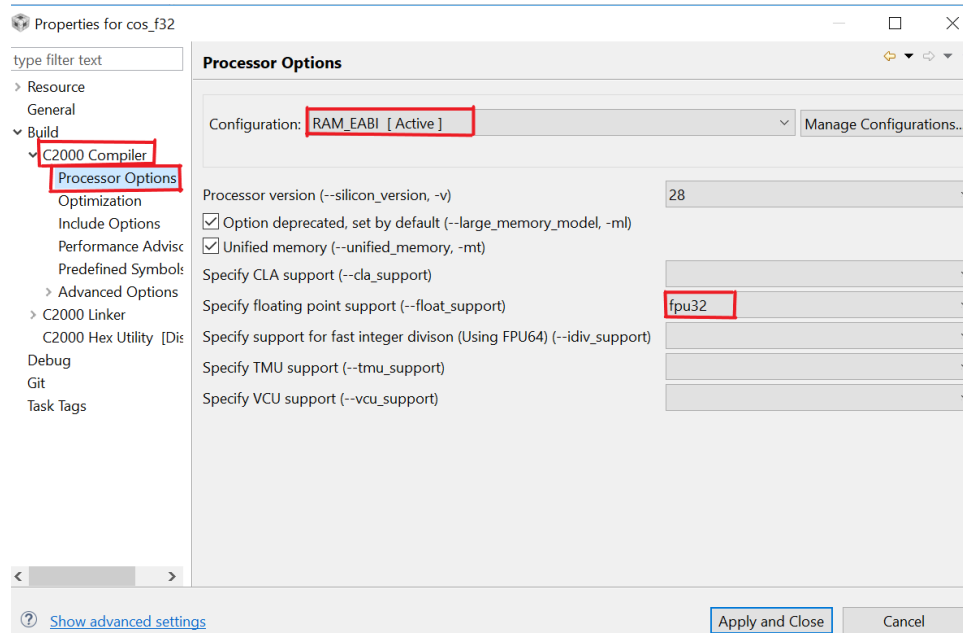

Figure 4.6: Turning on FPU32 support
- For the single precision library set the **–float_support** option to **fpu32** in the **Runtime Model Options**. The user may optionally turn on **tmu_support**; none of the library functions use TMU instructions but the library is built with TMU support turned on (Figure 4.6).